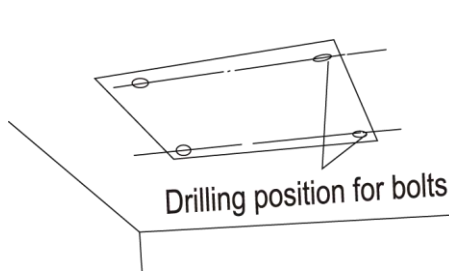

Figure 3-1-40
- (1) Using the installation template, drill holes for bolts (four holes) (Figure 3-1-40).